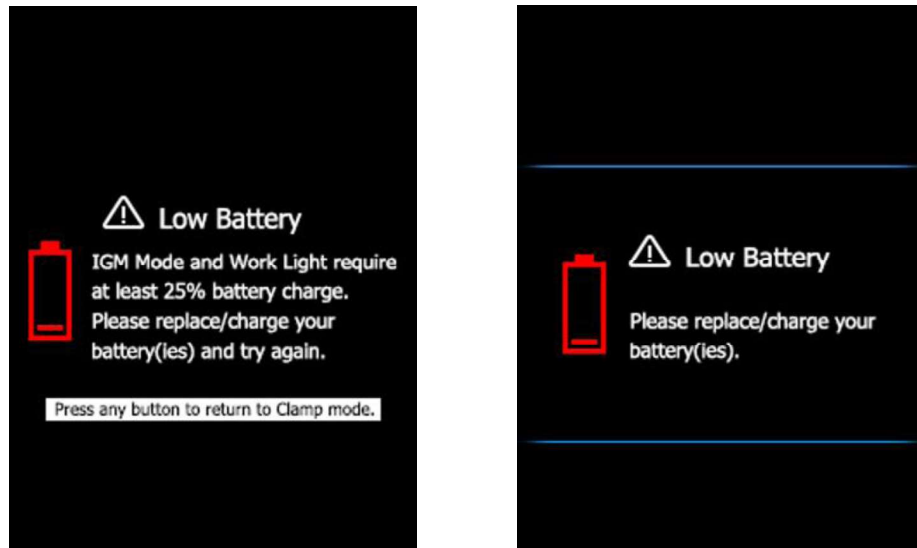

FIG. 5-1 Low Battery Alerts
2. If the battery indicator  shows that the battery voltage is low, if one of the Low Battery screens appears (Fig. 5-1), or if the meter does not power on, replace the three (3) 'AA' batteries. See Section 12.2, Battery Replacement. If using the Model TA04 charging system, please recharge the rechargeable battery.